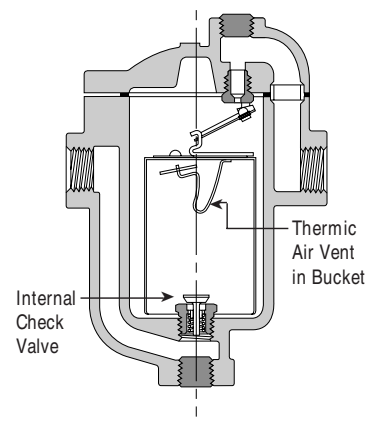

Figure 8-1.
**Internal Check Valves** are spring loaded stainless steel and screw directly into the trap inlet or into an extended inlet tube having a pipe coupling at the top to save fittings, labor and money. See Fig. 8-1.
**Thermic Vent Buckets** have a bi-metal controlled auxiliary air vent for discharging large amounts of air on start-up. Suitable for pressures up to 250 psig. See Fig. 8-1.